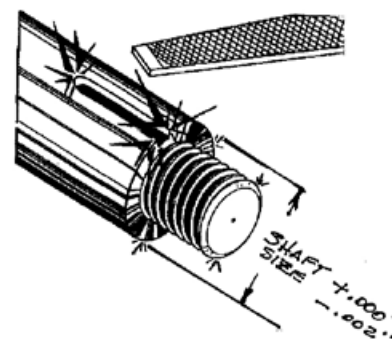

Figure 42
1. Check shaft/sleeve, it should be seal size  $+0.000$ " to  $-0.002$ " (0mm to 0.05mm) (Figure 42).
4. Check all keyways, threads, and shoulders for sharp edges, which could damage elastomers. Round edges or tape over before installation (Figure 42).